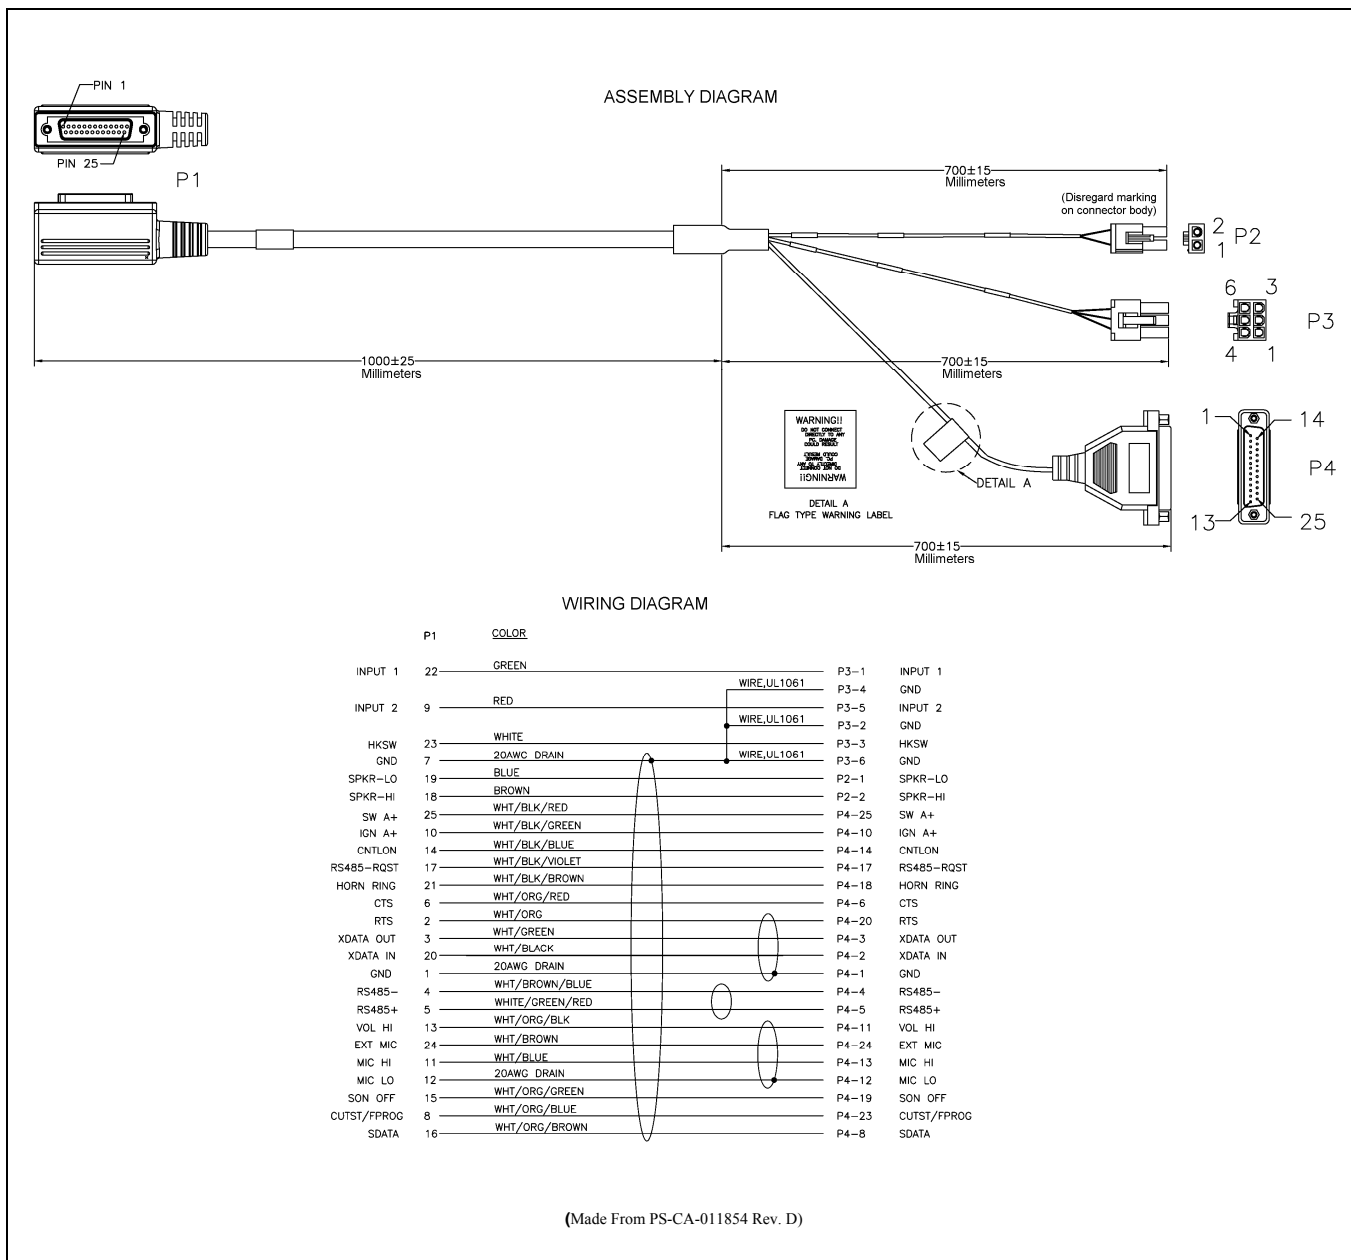

Figure 13-3: CH-721 Option Cable CA-011854-001
CH-721 Option Cable CA-011854-001 can be used to connect optional equipment to the 25-pin D-subminiature (DB-25) connector on the rear of the CH-721. This cable expands the connections available at the 25-pin connector to three (3) separate connectors. The cable's assembly and wiring diagrams are shown in Figure 13-3.